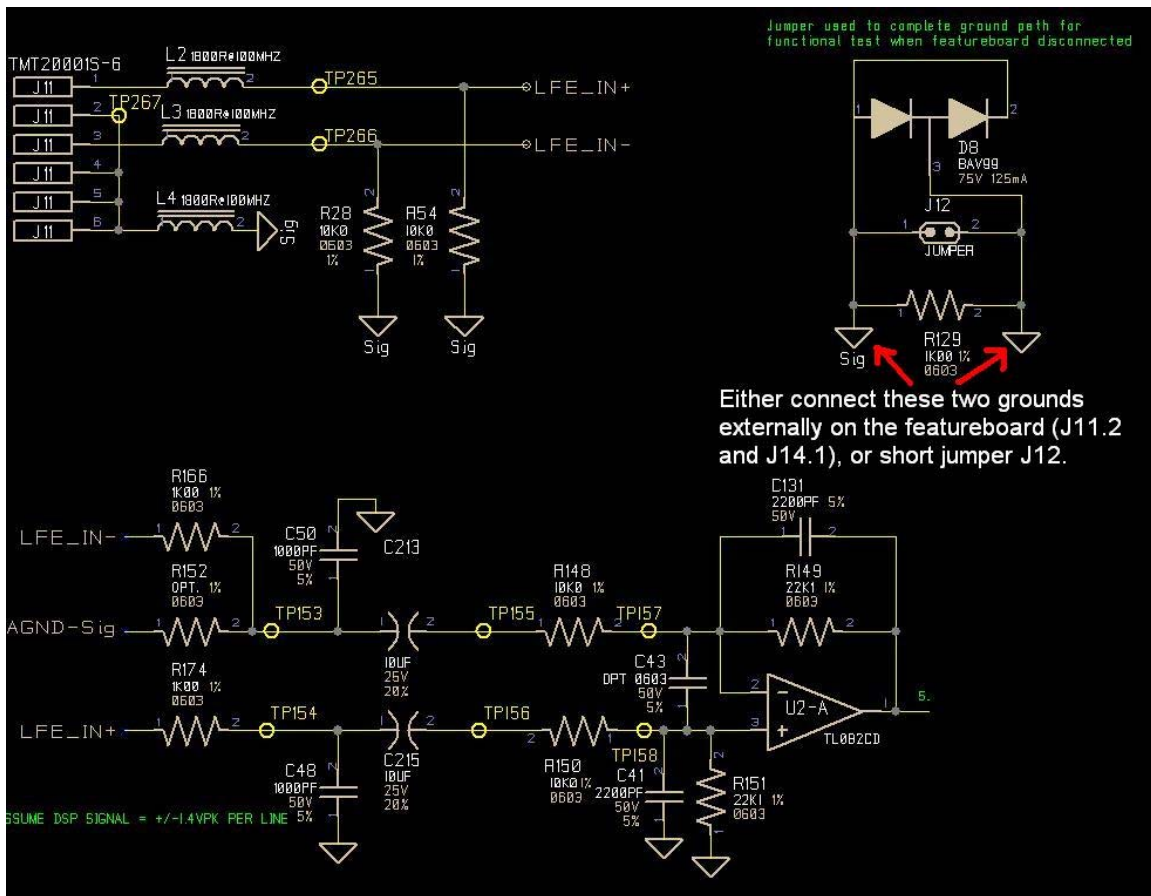

Fig. 8: Amplifier Input and Grounding Schematic
- Connect a balanced audio source to J11. Refer to Fig. 8 for details.